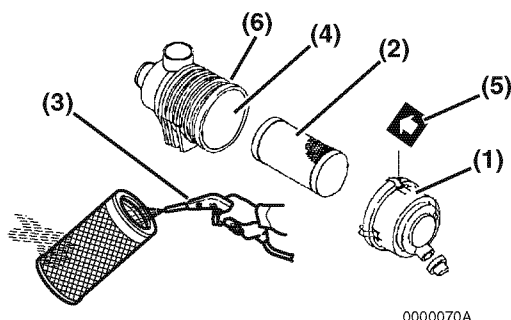
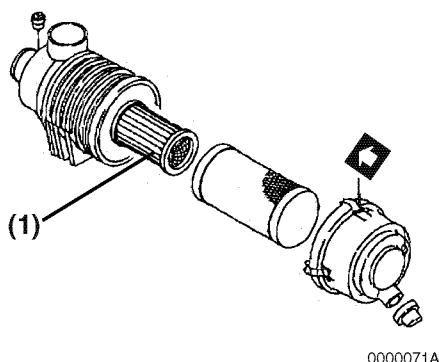

Figure 13
Figure 14
Note that a typical air cleaner is shown in **Figure 13** and **Figure 14** for illustrative purposes only.
1. Unlatch and remove the air cleaner cover (**Figure 13, (1)**).
2. Remove the element (**Figure 13, (2)**) (outer element if equipped with two elements).
3. Blow air (**Figure 13, (3)**) through the element from the inside out using 42-71 psi (0.29-0.49 MPa, 3.0-5.0 kgf/cm²) compressed air to remove the particulates. Use the lowest possible air pressure to remove the dust without damaging the element.
4. If the air cleaner is equipped with a double element, *only remove and replace the inner element* (**Figure 14, (1)**) *if the engine lacks power or the dust indicator actuates (if equipped)*.
7. Reinstall the element into the air cleaner case (**Figure 13, (4)**).
8. Reinstall the air cleaner cover making sure you match the arrow (**Figure 13, (5)**) on the cover with the arrow on the case (**Figure 13, (6)**).
Replace the air cleaner element (**Figure 13, (2)**) every 500 hours even if it is not damaged or dirty.
When replacing the element, clean the inside of the air cleaner case (**Figure 13, (4)**).
If the air cleaner is equipped with a double element, *only remove and replace the inner element (Figure 14, (1)) if the engine lacks power or the dust indicator actuates (if equipped)*. This is in addition to replacing the outer element.